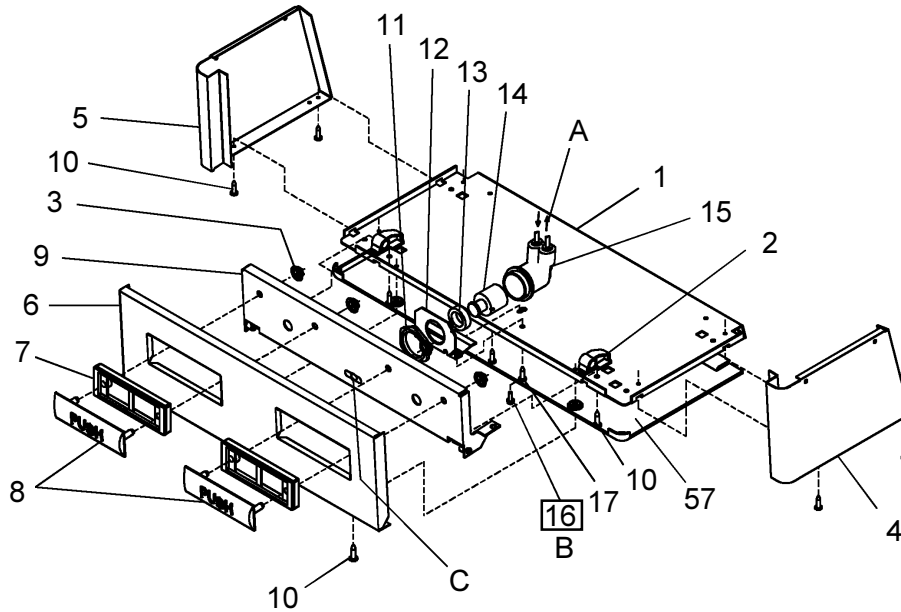

FIG. 3
See Fig. 3 (on Page 3)
- 5) Loosen the two (2) screws holding the lower front panel at the bottom of cooler base and two (2) screws at the top. Remove the front panel and set aside.
- 8) Stream height is factory set at 45-50 PSI. If supply pressure varies greatly from this, readjust stream height to approximately 1-1/2" (38mm) above the bubbler guard by turning adjustment screw, accessible by removing front push panel, Item No.6 (see Fig.3 & 5).
- 10) Replace the front panel and secure by retightening four (4) screws.